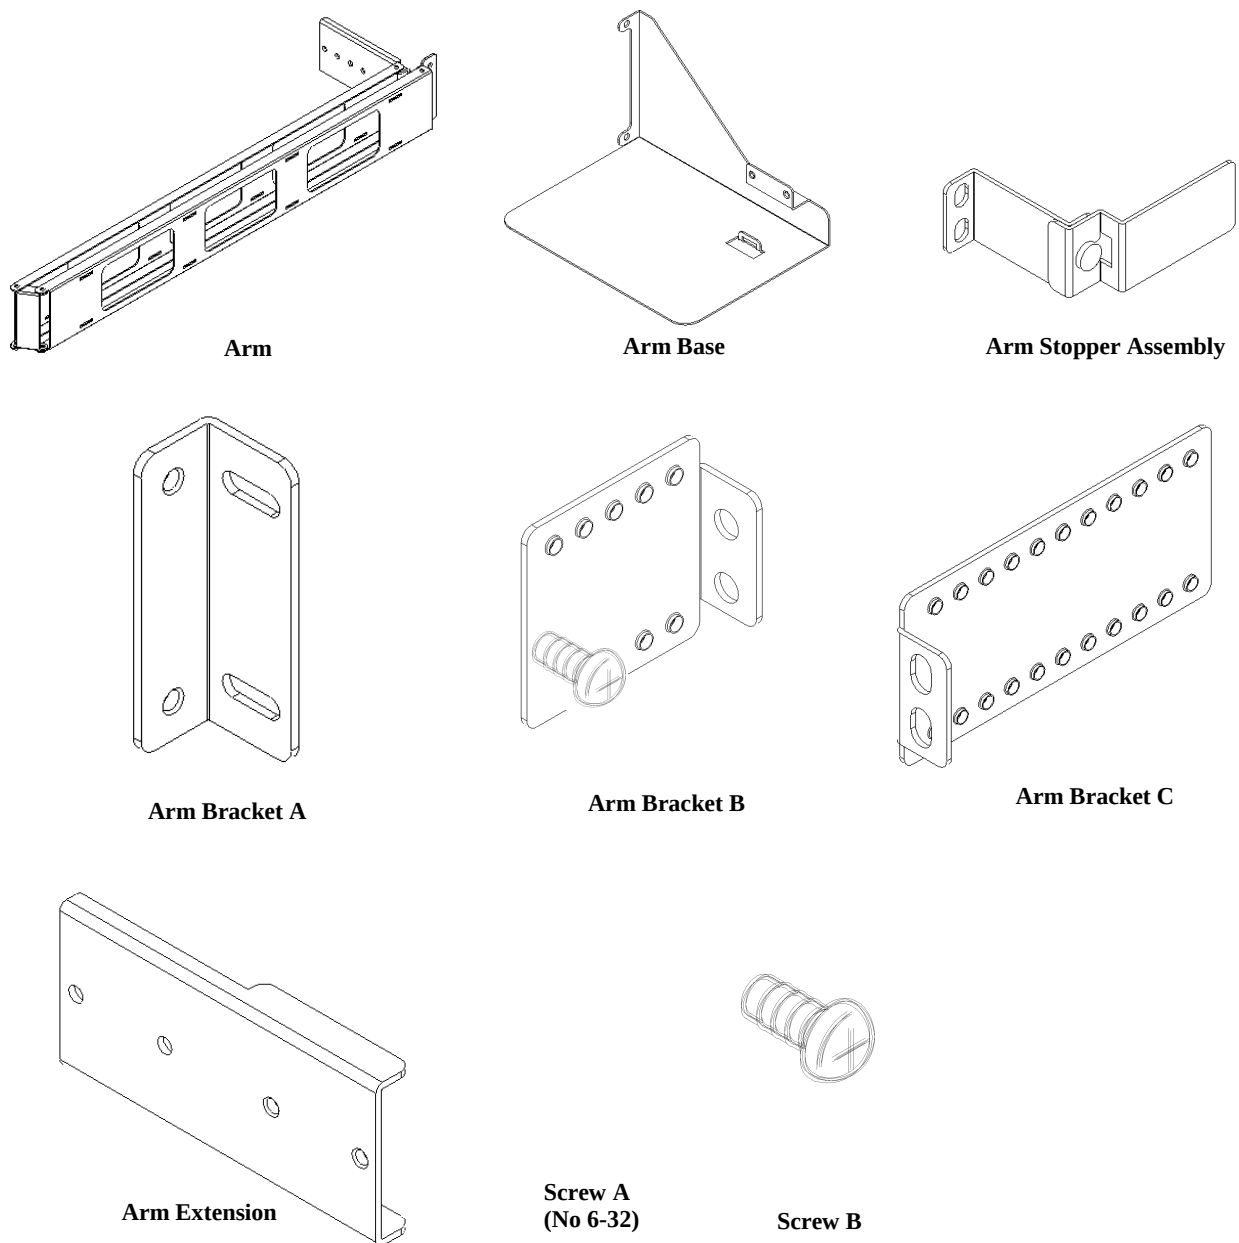

Figure 2-12. Cable Arm Assembly Parts
After unpacking the cable retention arm assembly, confirm that all parts shown in Figure 2-12 are included in the kit.
4. Using the upper rail bracket screw and one type B screw (see screw illustrations in Figure 2-12), attach Arm Bracket B bracket to the rear cabinet vertical rail.
5. Using the upper rail bracket screw and one type B screw (see screw illustrations in Figure 2-12), attach Arm Bracket B bracket to the rear cabinet vertical rail.